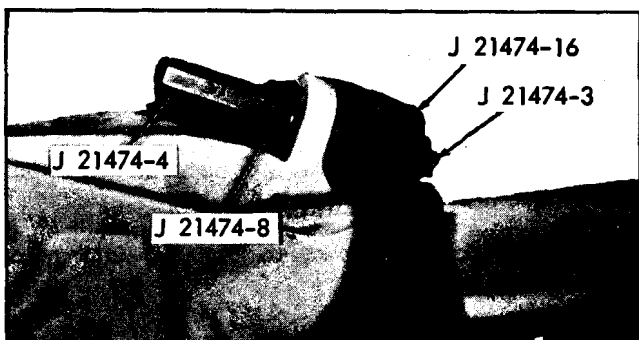

Fig. 4-5 Removing Upper Control Arm Rear Bushing Except Firebird
3. Arrange tools as shown in Fig. 4-5 and press bushing from axle housing.